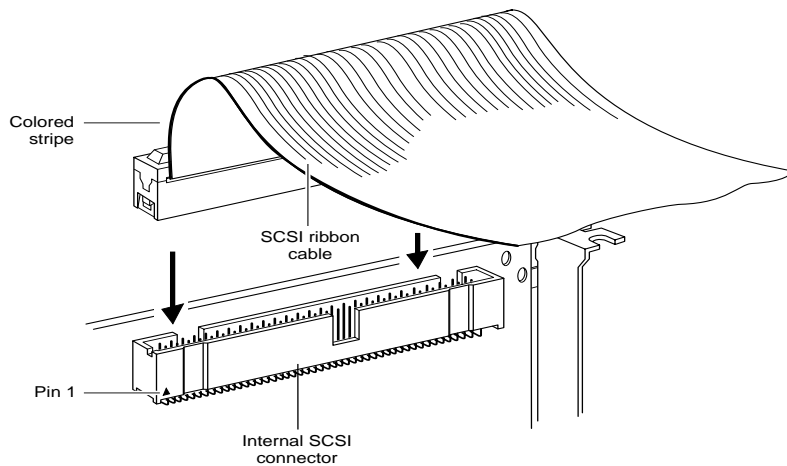

Figure 3-6. Internal SCSI Ribbon Cable to Host Adapter
- 2 Plug the SCSI connector at one end of the ribbon cable into the host adapter's internal SCSI connector, as shown in Figure 3-6.